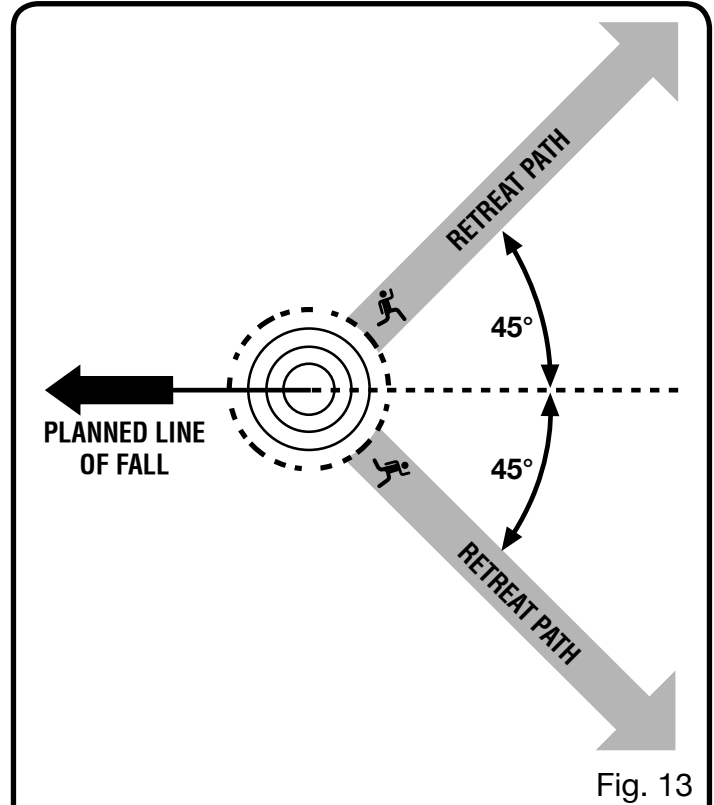

Fig. 13
See Figure 13.
See Figures 13 - 16.
- Before any cuts are started, pick your escape route (or routes in case the intended route is blocked); clear the immediate area around the tree and make sure there are no obstructions in your planned path of retreat. Clear paths of safe retreat should extend back and diagonally (45°) to the rear of the planned line of fall. When the tree begins to fall, you should retreat away from the direction of fall along a retreat path and at least 20 feet away from the trunk in case it kicks back over the stump. See Figure 13.